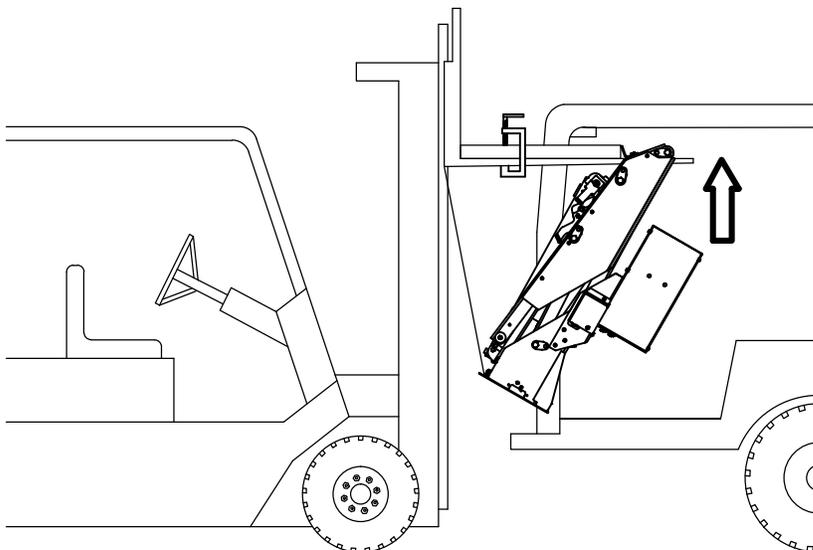

Figure 14: Raise the liftgate until the base of the liftgate will clear the shims on the van floor.
6. **Raise** the liftgate until the base of the liftgate will clear the floor and shims (Figure 14).
7. **Route** the power cables under the vehicle from the liftgate, along the frame, to a location under the driver door (Figure 14).